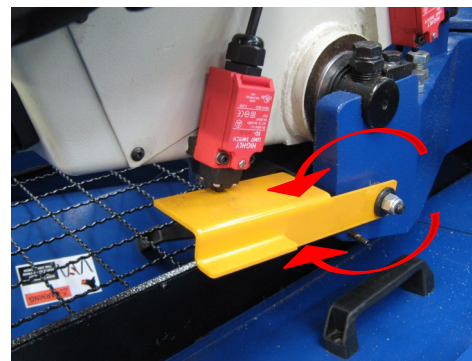

FIG 18.
- Raise the Bow. The maximum height of the Bow can be adjusted by moving the Bow Height Adjusting Plate up or down by hand (Fig 18).